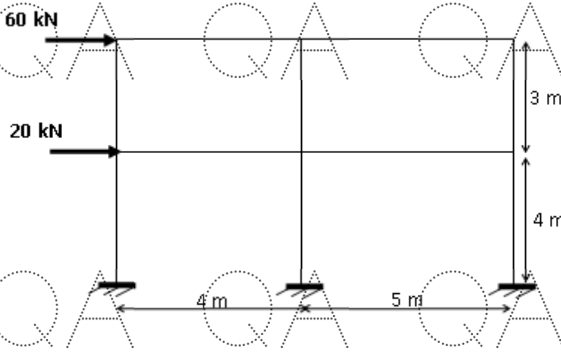

Figure.5
7. Using the factor method, analyse a building frame subjected to the loads as shown in Figure.5. Assume the cross-sectional area and moment of inertia the same for all members of the frame. Also draw the bending moment diagram. Draw BMD. [10]